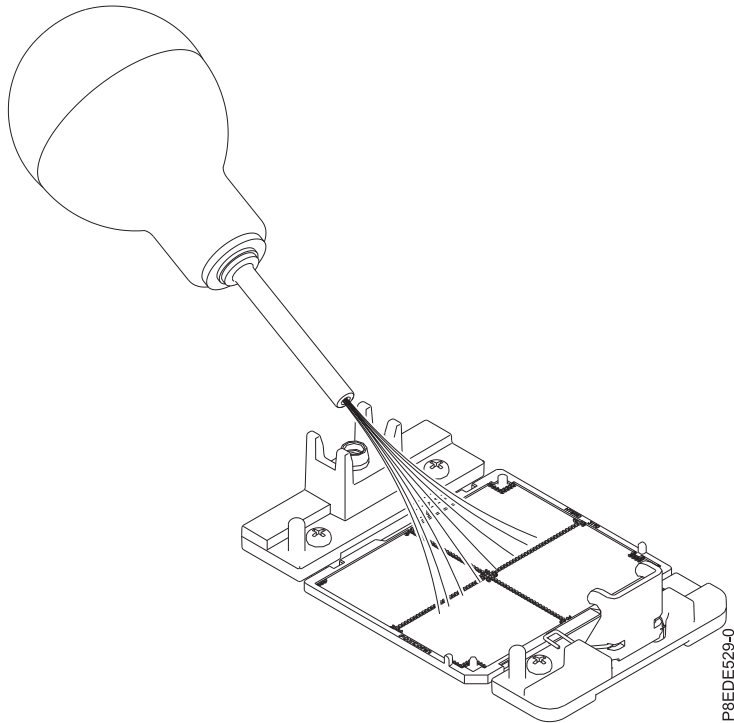

Figure 16. Removing dust and debris from the system processor socket
- a. If dust or debris is present on the system processor socket, use the supplied air pump (part number 45D2645) to clean the socket. If your air pump is not assembled as shown in Figure 16 on page 19, fasten the tip onto the bulb. Blow small bursts of air from the center toward the sides of the socket, as shown Figure 16 on page 19.